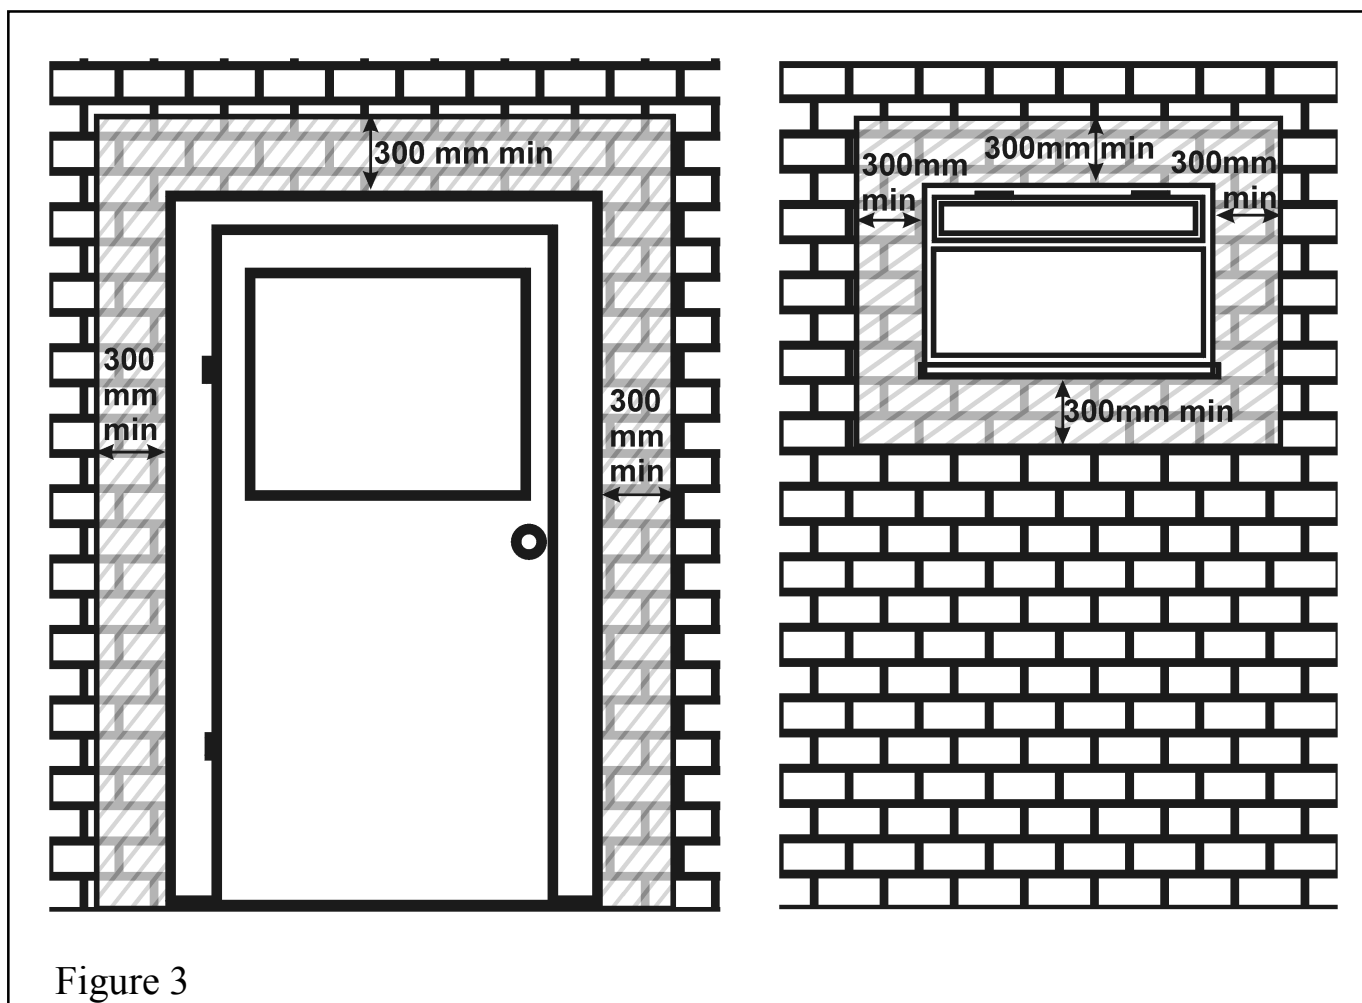

Figure 3
*In addition, the terminal should not be nearer than 300mm to an opening in the building fabric formed for the purpose of accommodating a built-in element such as a window frame or door frame. See figure 3.